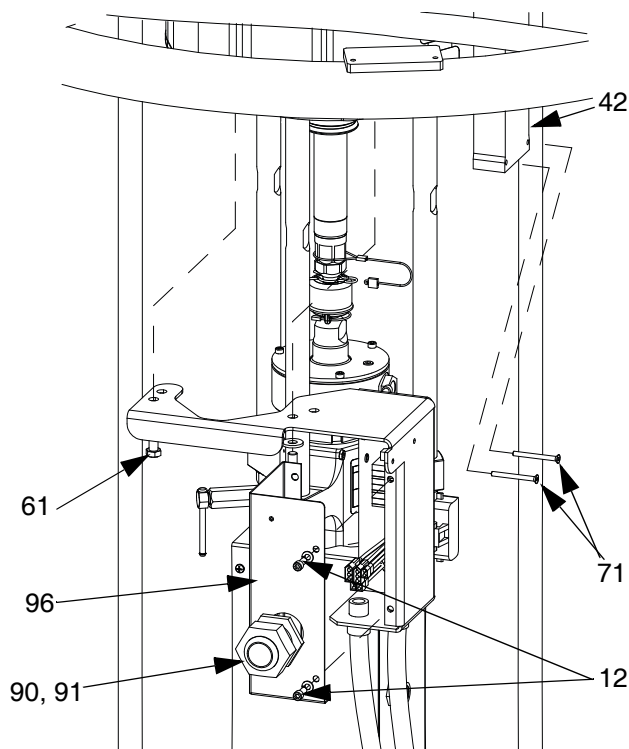

FIG. 35: Remove D200 and D200s Junction Box
For 55 gallon platen (D200 and D200s supply systems): Remove junction box from platen rod. Reinstall junction box to air motor using move two screws (61). See FIG. 35.